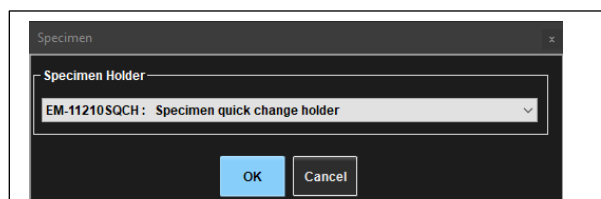

Figure 6: Specimen Holder selection
- Figure 6. This prompt will open every time you start the software and every time you insert a holder.